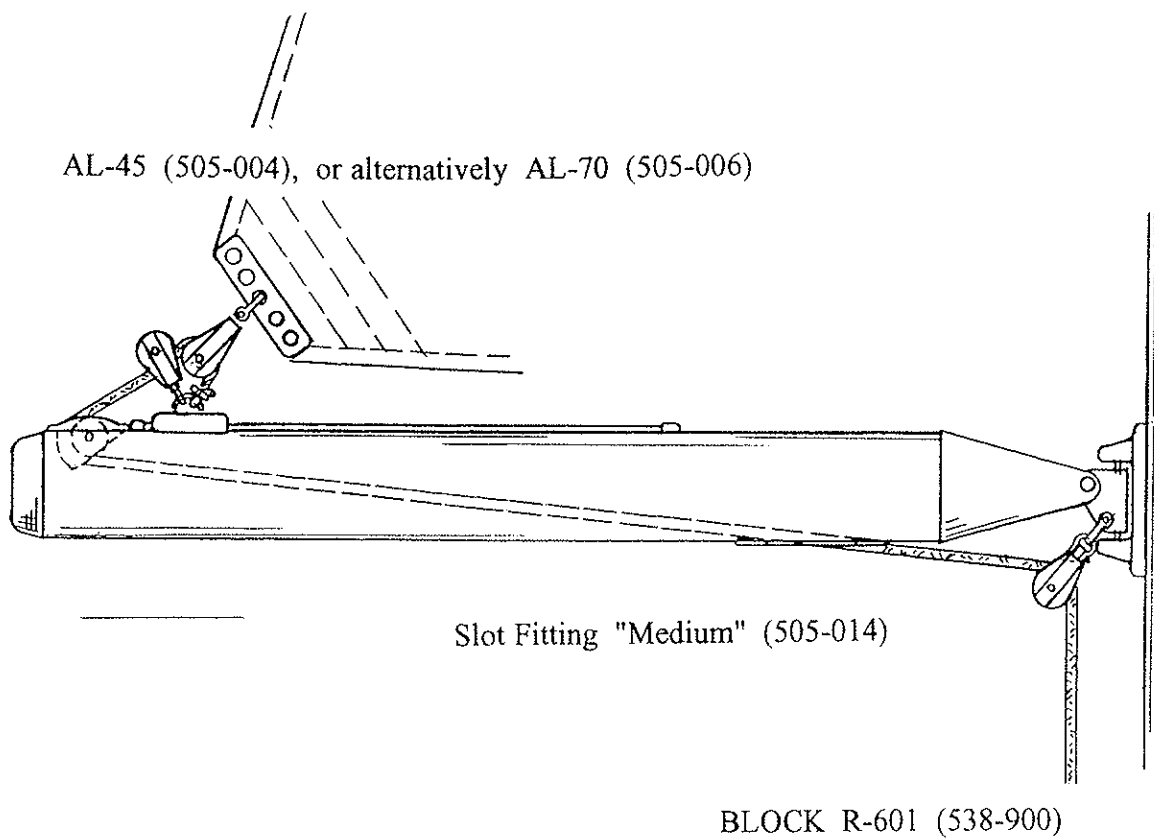

Fig. 26:1.
6. If the boom is not equipped for internal lines, the outhaul line can be given an alternative lead. Fig. 26:1. illustrates one method.